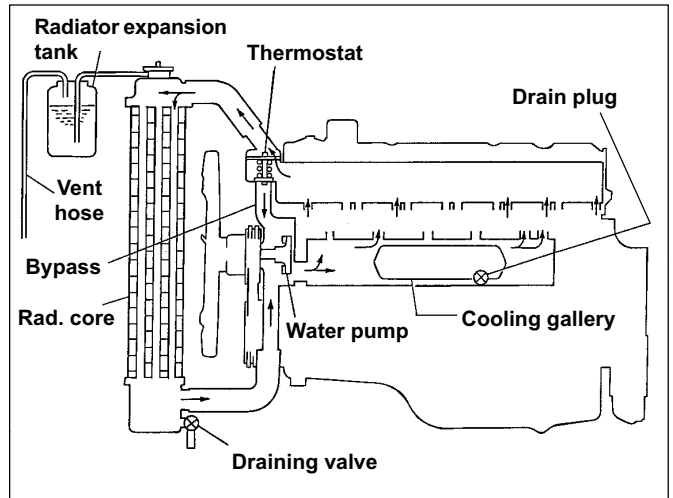

**FIGURE 4.45D**
4. Locate the lower cover beneath the radiator. See Figure 4.45D. Remove bolts and cover to obtain access to the radiator drain hose. Place an empty container, with sufficient capacity for engine system coolant, below the radiator drain hose. Refer to page 4-10 for proper system capacity. Turn valve counter clock wise to open drain.